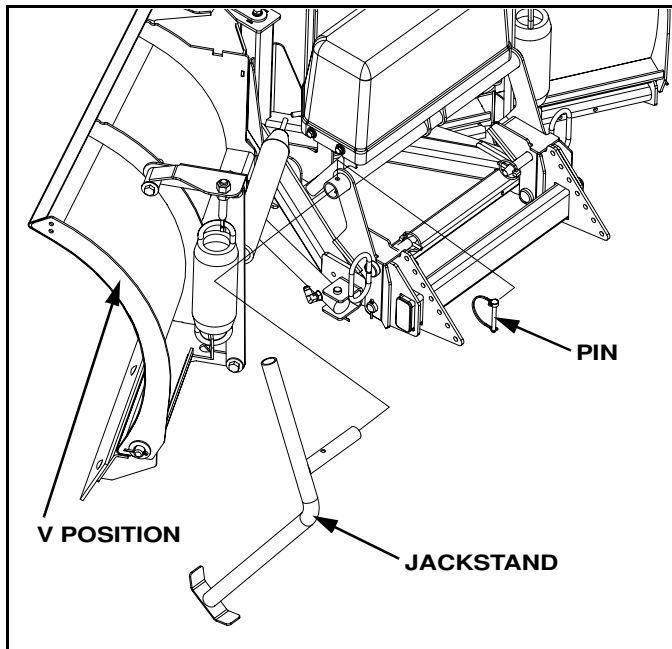

Figure 1-15
3. Insert jackstand into lift bar. Secure with pin. (See Figure 1-15).
4. If storage is long term (end of season) place wings in V position before removing plow. (See Figure 1-15)